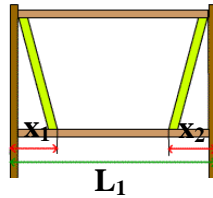

Figure 7
In a real building, every level has openings for doors and windows. In this competition, for each level of the model, at least half of its perimeter must be left clear of any materials. Therefore, for every floor, the total breadth of projection of bracings or inclined columns (x_1 and x_2 in Figure 7) must not exceed half of the floor's perimeter. It should be noted that bracings and inclined columns can project upward or downward.
4.7.1 In Figure 7 (side view), the column spacing is L_i (including the column widths), and the projection length of the bracing is x_i (including the width of the bracing).